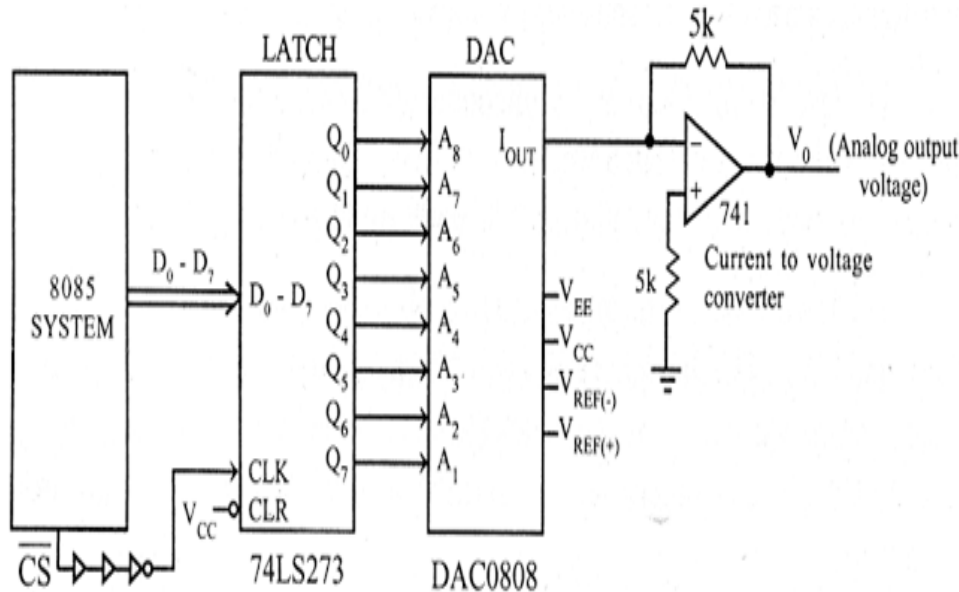

Figure 117 : Interfacing DAC0808 to 8085 Microprocessor system
The DAC0800 can be interfaced to 8085 system through an 8-bit latch as shown in Figure 117 below. The chip select (CS) signal from the decoder of the microprocessor system is delayed and inverted to clock the latch. If the DAC is memory mapped then the CS is from memory decoder. If the DAC is I/O mapped then CS is from I/O decoder.